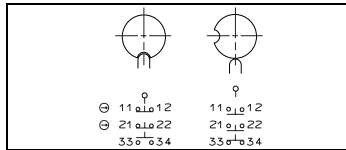

Fig. 2: Switching elements and switch functions
- See connection diagram (Fig. 2).